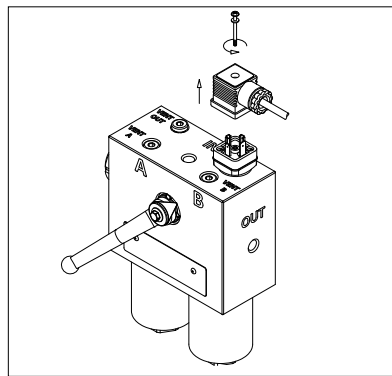

fig. 15
- (Fig. 15) Remove the connector of the differential indicator by unfastening the central screw (only for electrical indicators)
- For the mounting/dismounting of the indicator, please refer to the paragraph “Clogging indicator replacement” above (Fig. 15÷18)